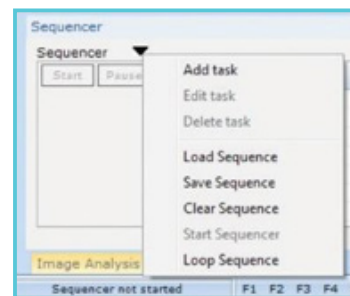

Figure 2.28
3. Enter all the tasks needed in the sequencer and click OK. The sequencer tasks are listed in the trace as marks, shown in figure 2.28.